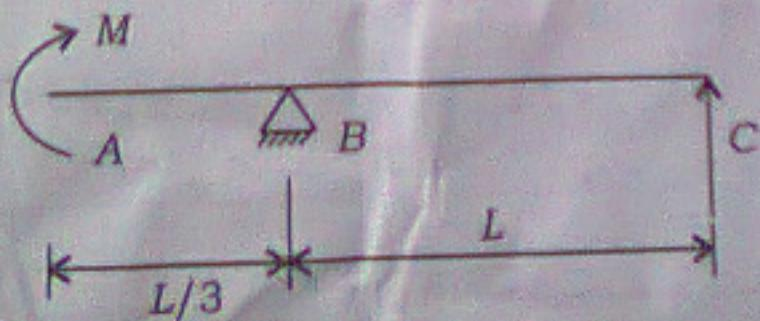

Fig. 4
4. Using Castigliano's first theorem, determine the deflection and rotation of the overhanging end A of the beam loaded as shown in Fig. 4.